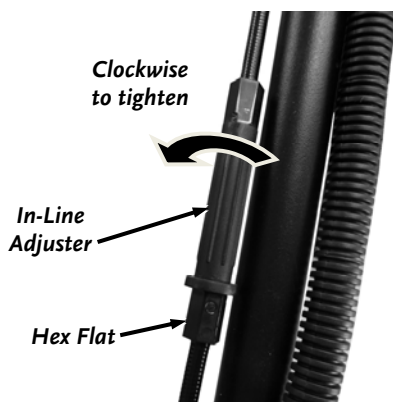

Figure 39
1. Locate the Trimmer Head Cable along the left Handlebar. There is an In-Line Adjuster to change the tension on the Cable (**Figure 39**).